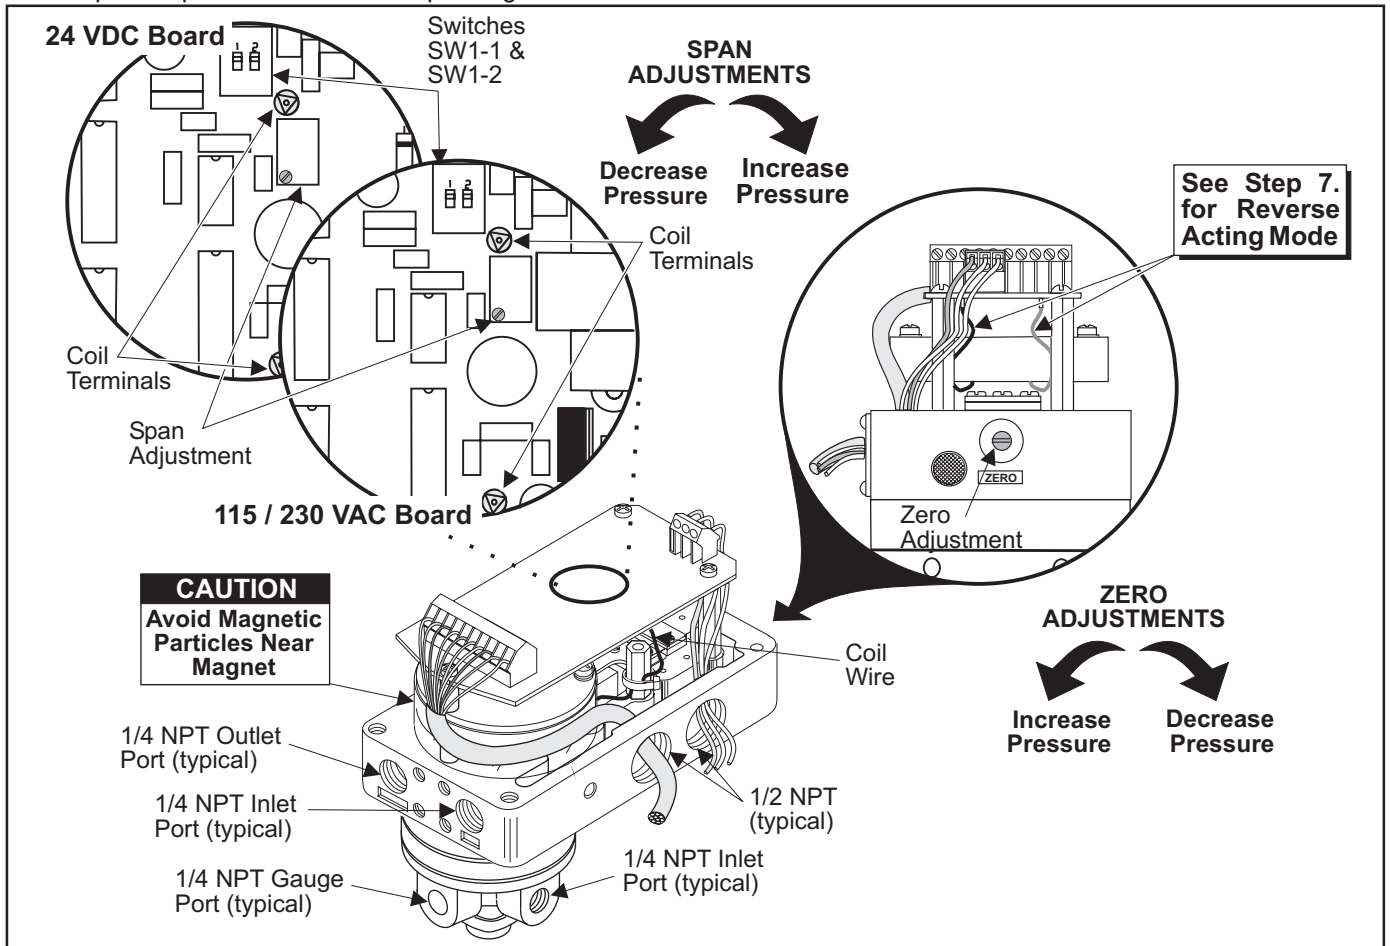

Figure 5. Calibration Configuration.
8. Reverse the coil wire connections on the underside of the PC Board as shown in Figure 5. below.